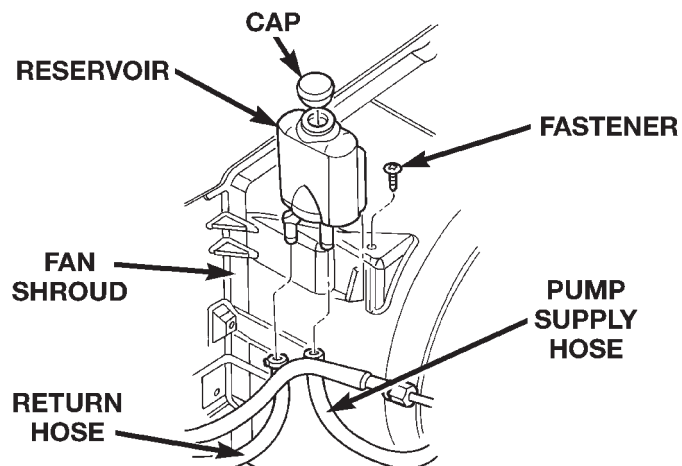

Fig. 4 Pump Reservoir – 2.5L
(1) Remove the pump return hoses from the reservoir and drain the reservoir.
(2) Remove the push-in fastener from the reservoir (Fig. 4).